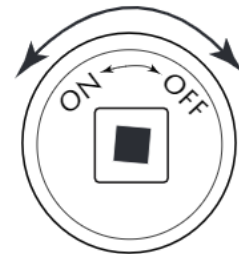

Fig. 7 Key Valve Face
1. Insert key into shut-off valve and secure into square end (See Figs. 7 & 8).